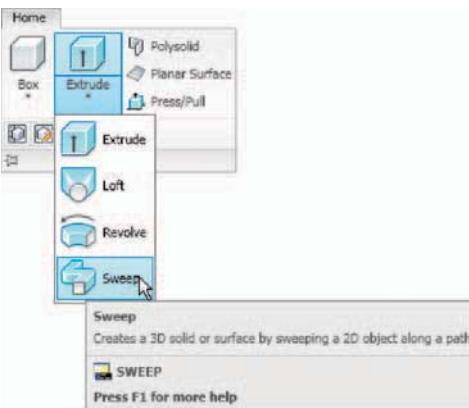

Fig. 12.37 Selecting the Sweep tool from the Home/Modeling panel
To call the **Sweep** tool, *click* on its tool icon in the **Home/Modeling** panel (Fig. 12.37).
3. Place the window in a ViewCube/Isometric view and click the Sweep tool icon (Fig. 12.37). The command line shows: